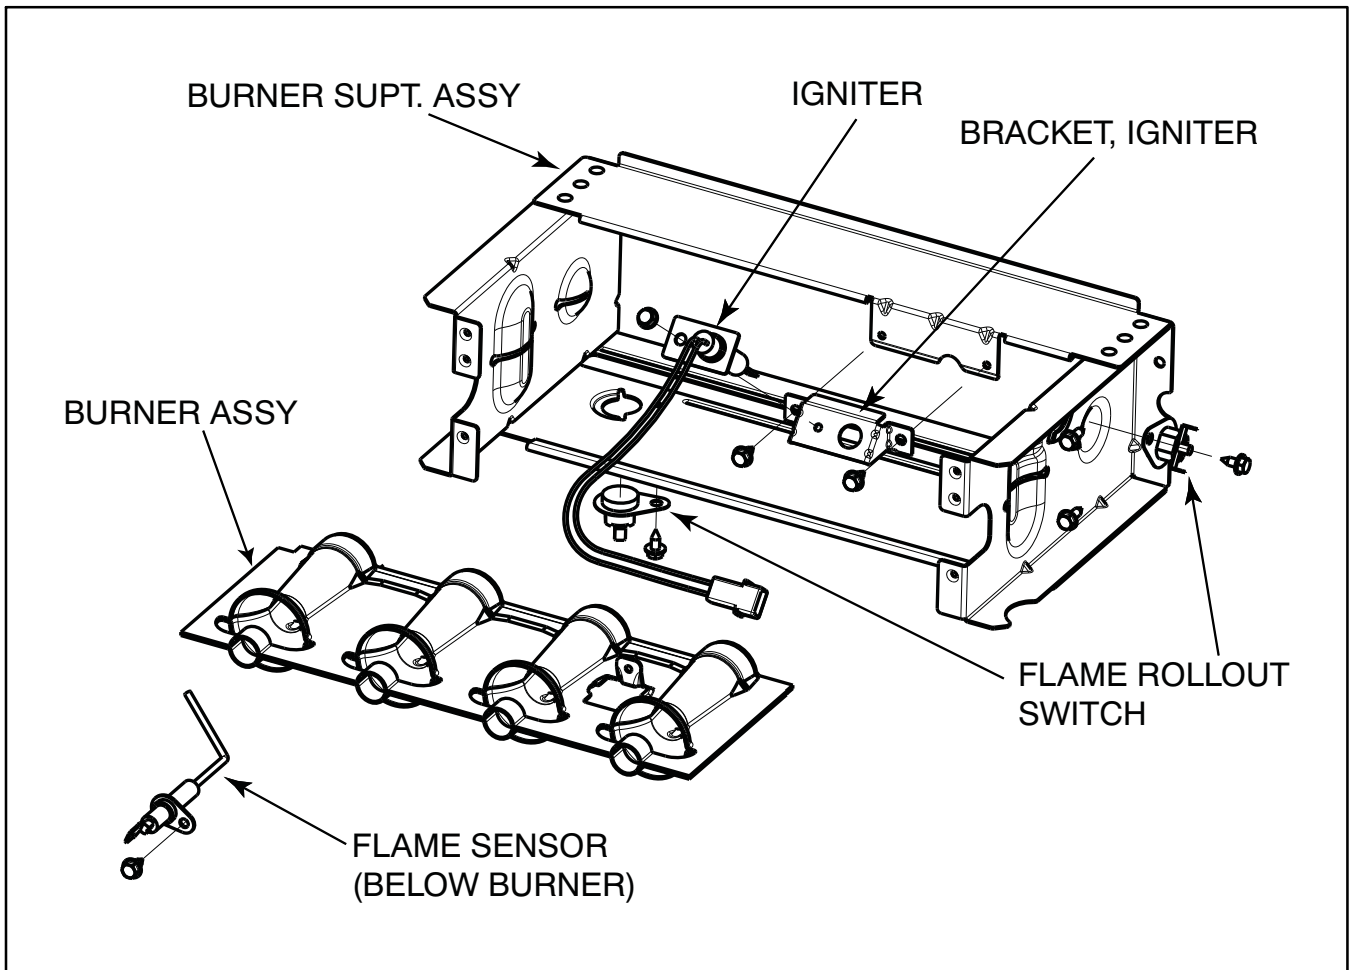

Figure 14 - Burner Assembly
6. Remove screws attaching burner assembly to cell panel. (See Figure 14.)